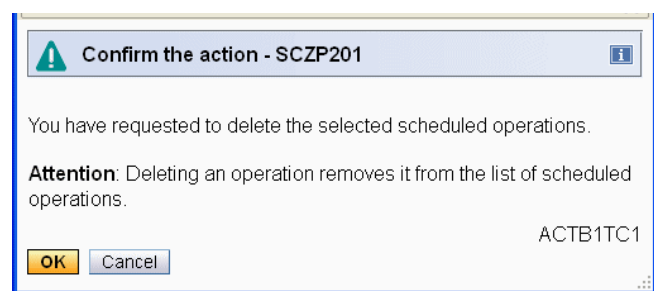

Figure 1-78 Delete scheduled operation confirmation
- On the “Confirm the action” panel click **OK** (Figure 1-78).